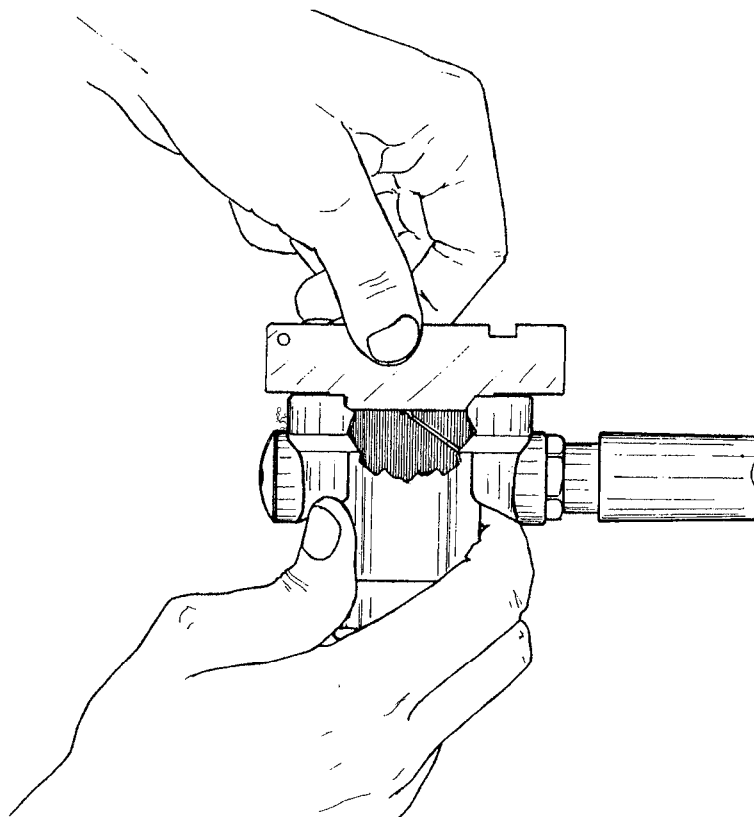

FIG. 7
1. Position lever height gauge so that the two ends rest on the edge of the 2nd stage case (See Fig.7).